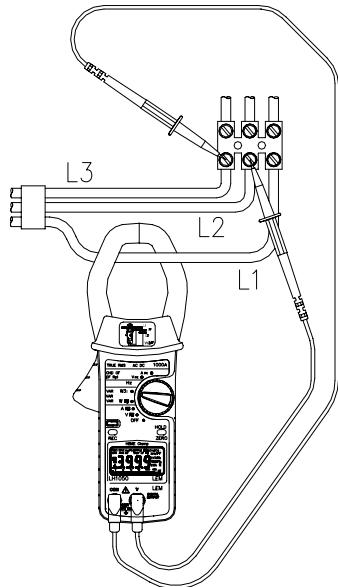

Fig. 5
- Press the trigger to open the jaws, and clamp them on the phase L1 current carrying conductor as shown Fig. 5